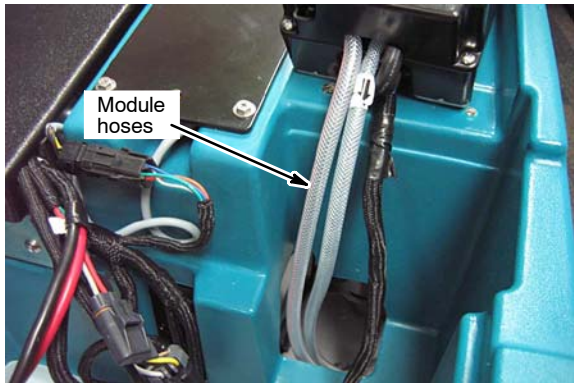

Fig. 31
7. Replace the squeegee mount bracket (Figure 31) and carefully stand the machine upright.